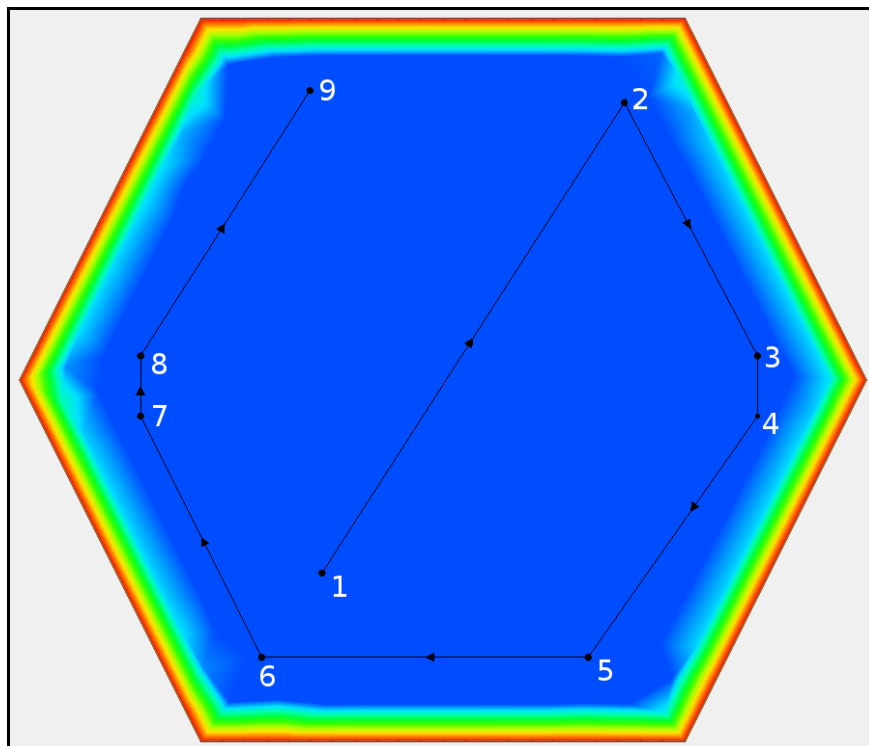

Figure 5 Nodes and vertices numbered
- Using either the **Select Feature Vertex**  tool or the **Select Feature Point**  tool, select the vertex or node closest to the coordinates in the table and change the coordinates in the Edit Window for that vertex or node according to the table. See Figure 5 for the number of each node or vertex.
- Convert any vertices to nodes (except for point #4 in Figure 5) by right-clicking on the point and selecting **Convert to Node**.